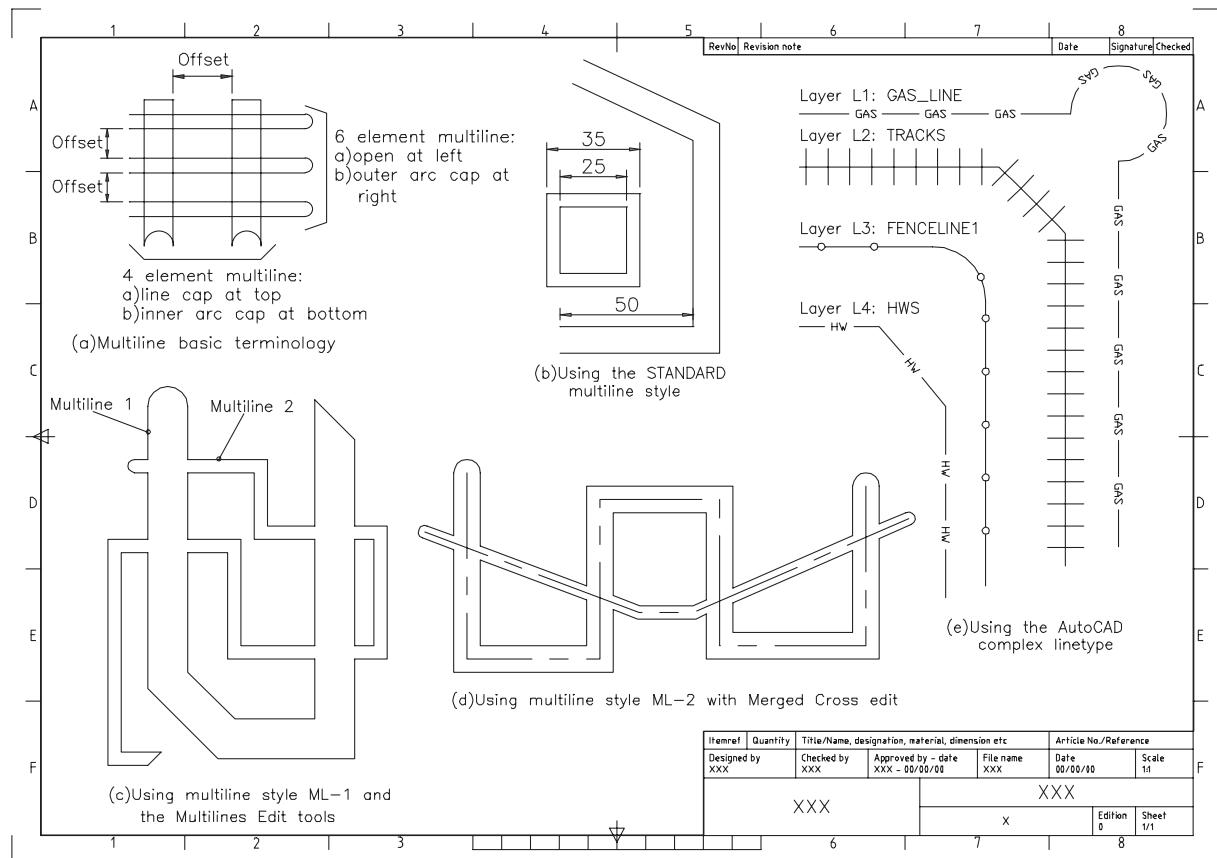

Figure 27.1 Multiline (terminology and usage) and complex linetypes.
- 3 The basic multiline terminology is displayed in Figure 27.1(a).
- b) refer to Figure 27.1(b).
then **pick as required** until all the ‘crossed’ multilines are opened – Figure 27.1(c)
b) dimension the multilines in Figure 27.1(b) to determine which element has been drawn at the correct ‘length’.
- 4 Now use the created ML-2 multiline style to draw some line segments – Figure 27.1(d).